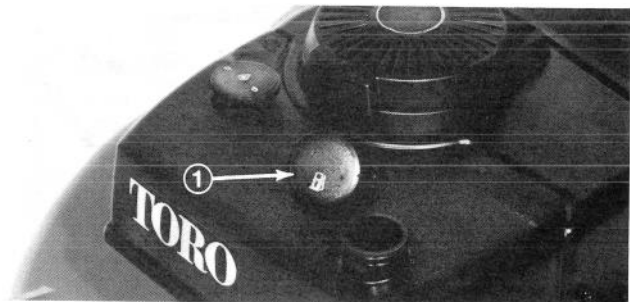

Figure 6
1. Remove cap from fuel tank (Fig. 6).